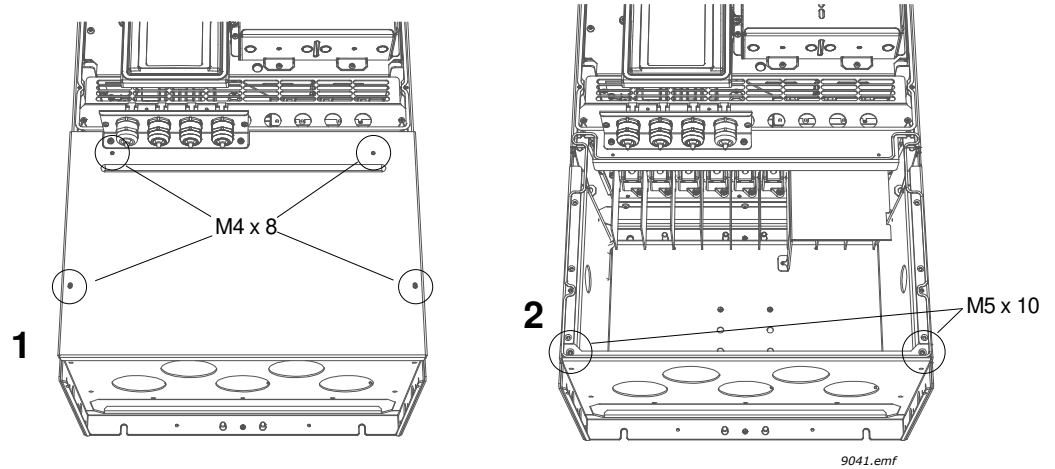

Figure 25: Removing the Cable Cover and Cable Fitting Plate (FS9).
7. Connect the stripped cables (see Figure 18 [→ 33] and Table [→ 33]17) as shown in Figure 25 [→ 33].
- Expose the shield of all three cables in order to make a 360-degree connection with the cable clamp (1).
- Connect the (phase) conductors of the supply and motor cables into their respective terminals (2).
Form the rest of the cable shield of all three cables into “pigtailed” and make a grounding connection with a clamp as shown in Figure 25 [→ 33] (3). Make the pigtailed **just long enough** to reach and be attached to the terminal - not longer.